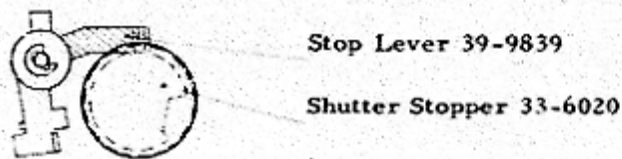

Fig. 36
- 3) Set Stop Lever 39-9839 on Shutter Stopper 33-6620 as shown in Fig. 36.